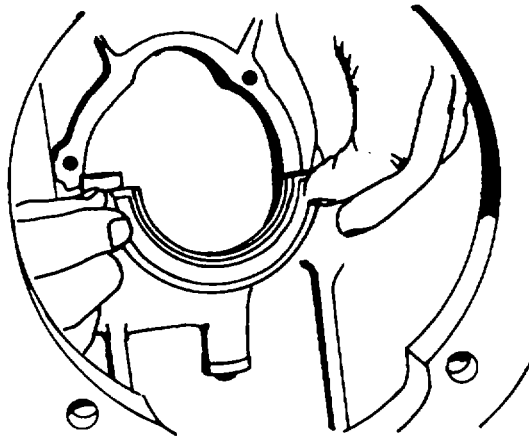

Figure 5-24. Fitting Thrust Ring
19. Turn the engine upside down. Install the halves of bearing shells of the middle crankshaft bearing in the crankcase and bearing cap, respectively; check the identification marks. Fit the half of thrust ring with the smooth surfaces to the bearing cap and bearing web sides, respectively apply grease to retain them in position (figure 5-24).